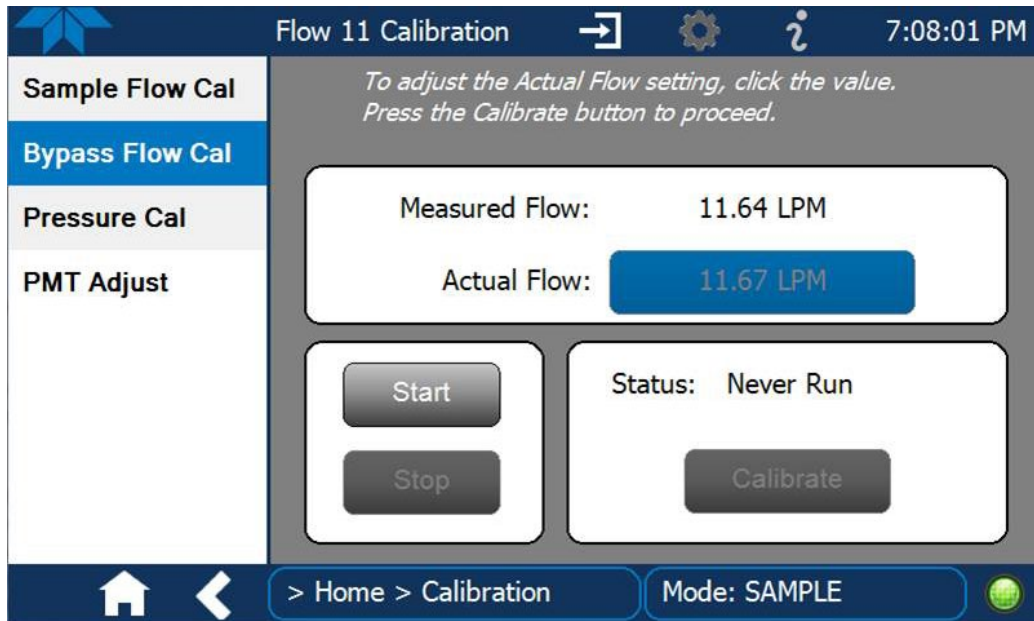

Figure 19. Bypass Flow calibration screen.
4. Compare the “Measured Flow” in this screen to the Flow Transfer Standard (Figure 19) and determine if these values differ by more than 5% (e.g., outside of 11.12 – 12.29 lpm for bypass flow, if sampler reads 11.7 lpm). However, values approaching the 5% tolerance should also be considered for a calibration since the bypass flow check is expected to be performed infrequently.